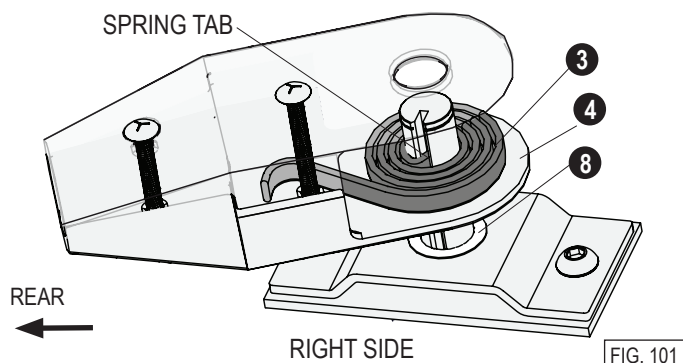
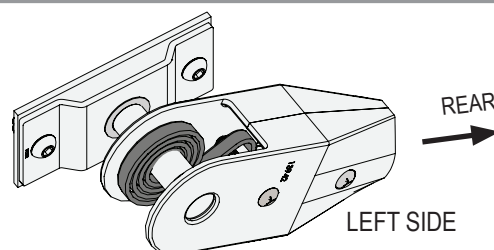

FIG. 101
FIG. 102
- Install a **bushing (8)** onto the pivot pin.
- Slide the first **arm casting plate (4)** onto the pivot pin.
- Install the **springs (3)** one at a time. Ensure each **spring tab** inserts into the pivot pin slot. Align the arm plates and springs as shown for the right side in Figure 101 and the left side in Figure 102.